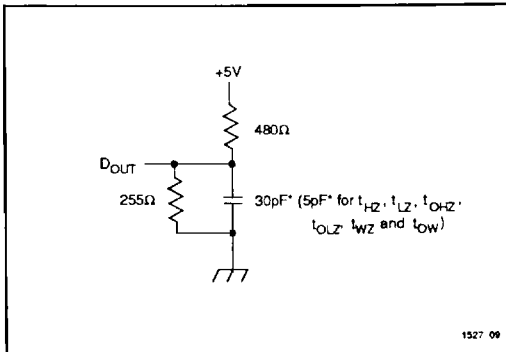

Figure 1. Output Load
- Transition is measured $\pm 200mV$ from steady state voltage prior to change, with loading as specified in Figure 1. This parameter is sampled and not 100% tested.
Output Load	See Figures 1 and 2